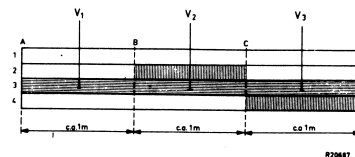

Fig 37
Make a recording on a piece of tape of about 3 metres on track 3 (position 2-3) with a frequency of 1000 c/s and 100 % modulation. (See the horizontally shaded part of fig. 37.)
Erase on track 4 (position 1-4) a piece of about 1 metre (see the vertically shaded part of fig. 37). Depress the stop key, and switch to track 2 (pos. 2-3).
Erase on track 2 a piece of about 1 metre (see vertically shaded part of fig. 37).
Play back the whole recording of track 3 and make a note of the indications of the valve voltmeter. The valve voltmeter can indicate three different voltages, namely, of A-B, V1; of B-C, V2; and of C-D, V3 (see also fig. 37).